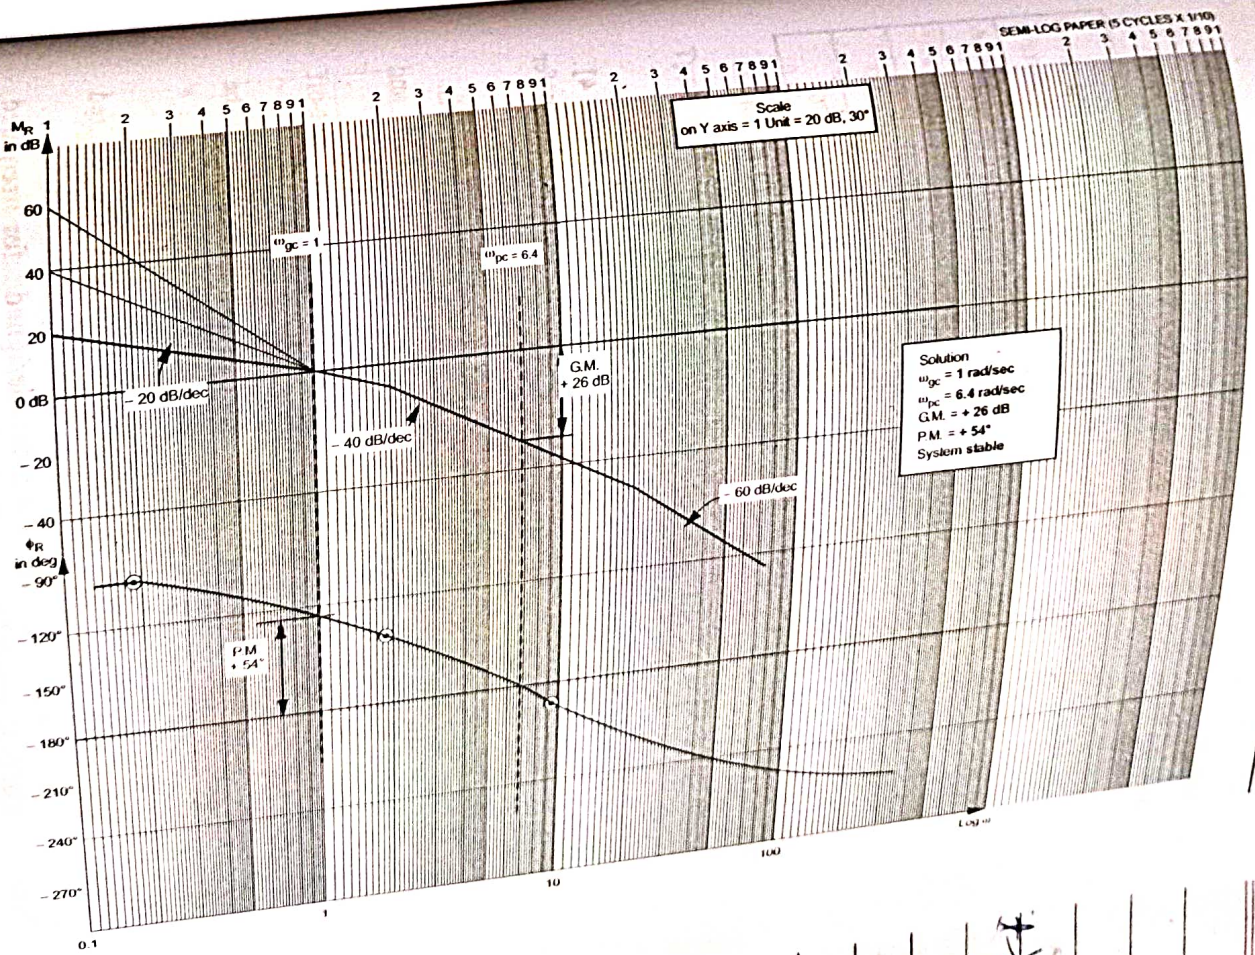

Fig. Q.17.1
Step 4 : Bode plot and all the answers are given in the Fig. Q.17.1.